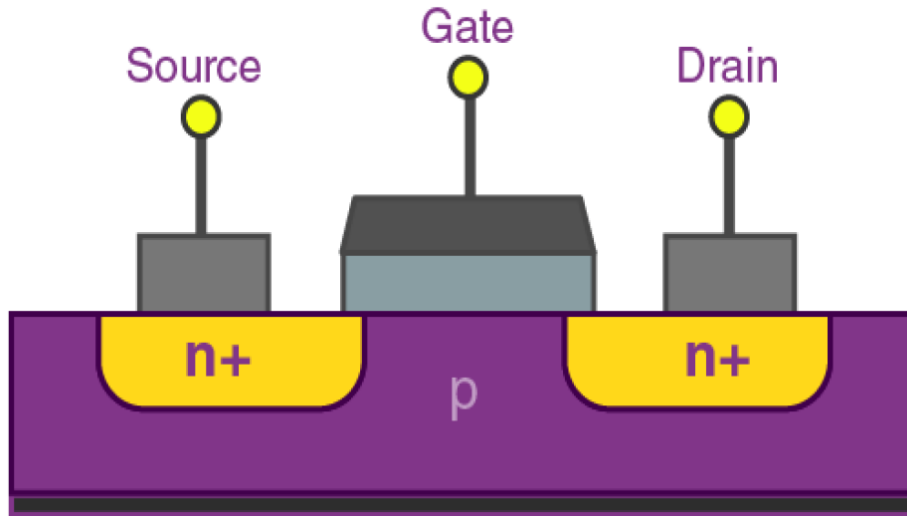

Figure 2.3: Basic NMOS Transistor [unk23]
Metal-Oxide-Semiconductor, or MOS, transistors are the "switches" that make up most of the integrated circuits in the world. The "semiconductor" in MOS is silicon (Si), the "oxide" is silicon-dioxide (SiO_2), and the "metal" is aluminum (Al) or tungsten (W). Transistors operate like switches because when a particular voltage is applied to the gate, current flows between the source and the drain. Figure 2.3 shows a simple N-type MOS transistor.